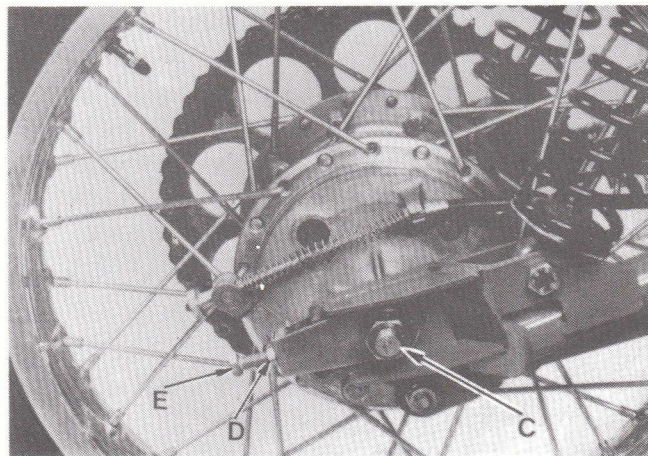

Fig. 14 - Chain tension adjustment
To adjust the drive chain tension, slacken the rear wheel axle nut (C) loosen then the locknuts (D) and turn both adjusting bolts (E) an equal amount until correct tension is obtained (fig. 14).